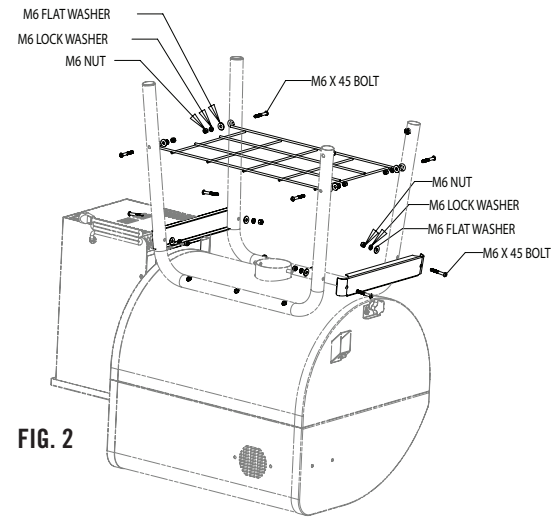

FIG. 2
2. Assemble Qty (2) leg brackets onto the legs as shown in Fig 2 using Qty (4) M6 x 45 Bolts, Qty (4) M6 Flat Washers, Qty (4) M6 Lock Washers, and Qty (4) M6 Nuts. Finger tighten hardware.
3. Assemble the wire shelf to the legs as shown in Fig 2 using Qty (4) M6 x 45 Bolts, Qty (4) M6 Flat Washers, Qty (4) M6 Lock Washers, and Qty (4) M6 Nuts. Finger tighten hardware.